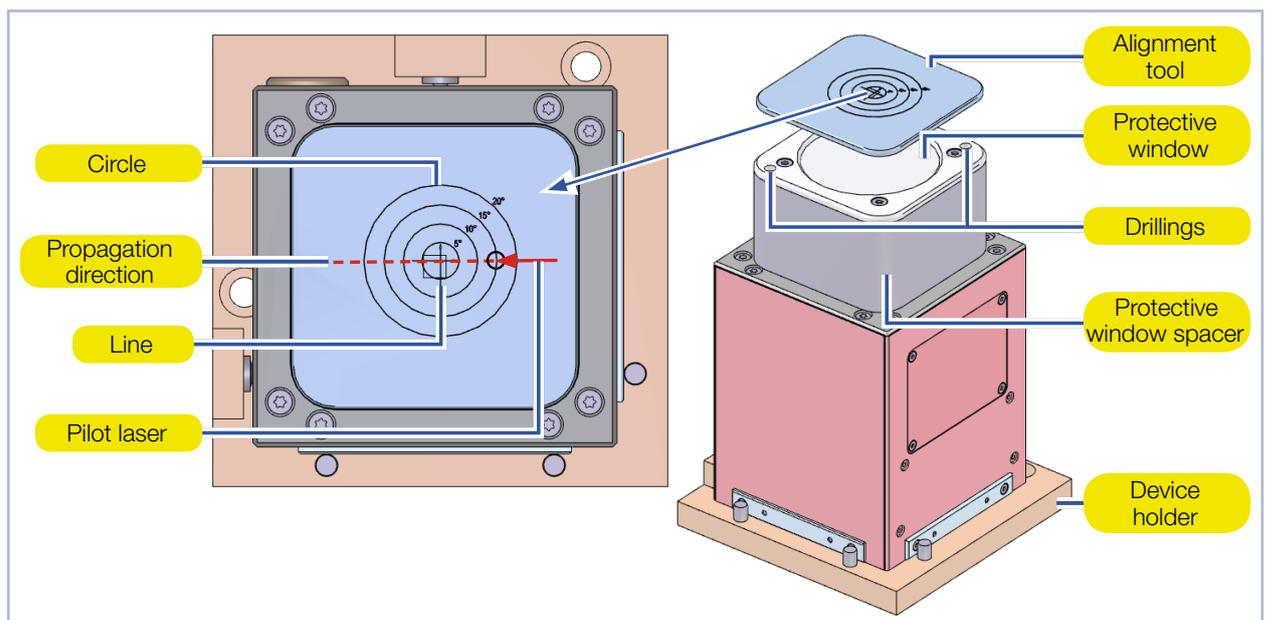

Fig. 12.4: Aligning the ScanFieldMonitor SFM with spacer using the alignment tool
Using the alignment tool and a pilot laser beam you can align the device to the laser beam (see Fig. 12.4 on page 23).
3. Move the device along the propagation direction until the laser beam hits the desired circle of the alignment tool (Fig. 12.4 on page 23 shows an example for 15 degree).